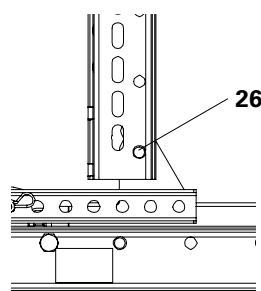

Fig. B8.02a
1. Bolt Platform Beam SRU (58) onto the Steel Waler SRU U120 (1c) of the pre-assembled External Formwork Element A using 2x fitting pins \varnothing 21 mm (26).
2. Insert Guardrail Post HSGP-2 (40) into the Platform Beam SRU (58).
4. Bolt the Formwork Element with Platform Beam onto the Adjusting Unit VARIOKIT (18) using 1x fitting pin \varnothing 21 mm (26). (Fig. B8.02a)